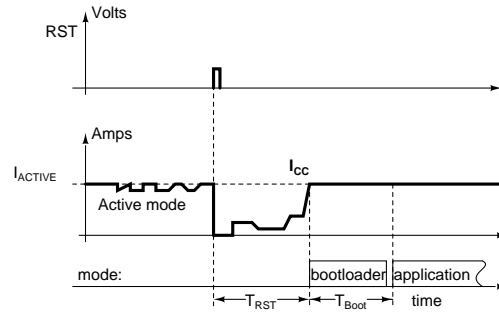

Figure 30: Power on sequence-2 (reset controlled by Host MCU when in active)
1. Reset while Tango C is in active mode, shown in figure 30.